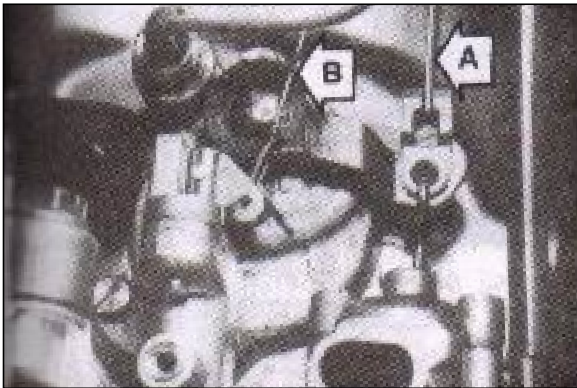

Fig. 72
- (c) Remove the air cleaner box cover, air cleaner and carburettor assy. by disconnecting throttle 'A' and choke control 'B' cables and fuel pipe. (fig.72)